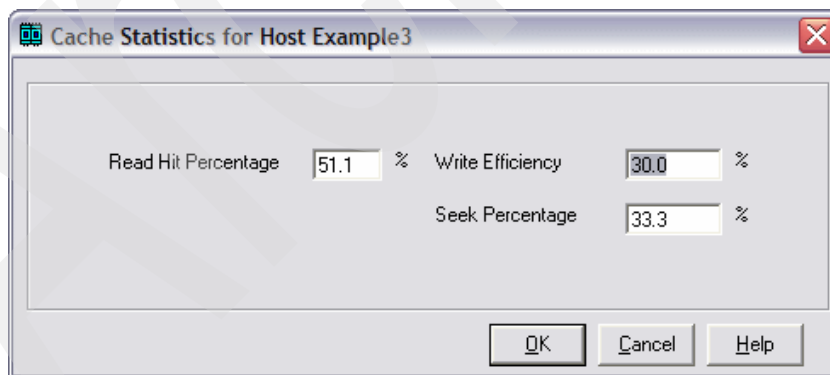

Figure 4-78 Current cache usage
- i. On the iSeries Workload tab, click **Cache Statistics**. In the Cache Statistics for Host window (Figure 4-78), notice the currently used cache percentages. Click **OK**.